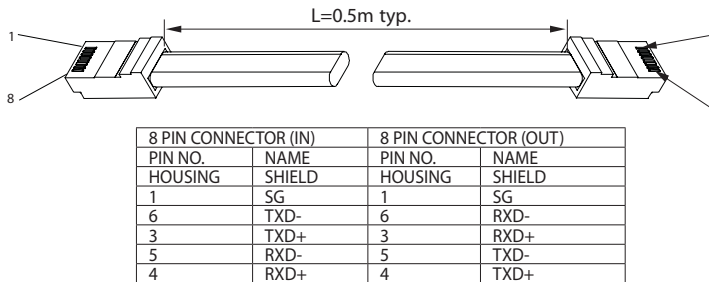

Fig.7-8: Serial link cable with RJ-45 shielded connectors (P/N: Z-RJ45)
- 3. Using the Linking cable supplied with each unit (Refer to Fig.7-8), connect each unit OUT connector to the next unit IN connector.